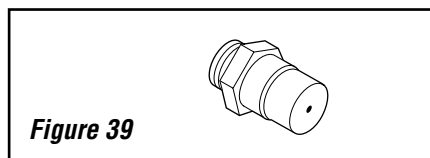

Figure 39
A. Remove the orifice from the manifold and replace it with the one provided in the kit. The following table shows the orifice sizes for natural and propane models. **Figure 39** illustrates the orifice. Always check and verify correct orifice size.